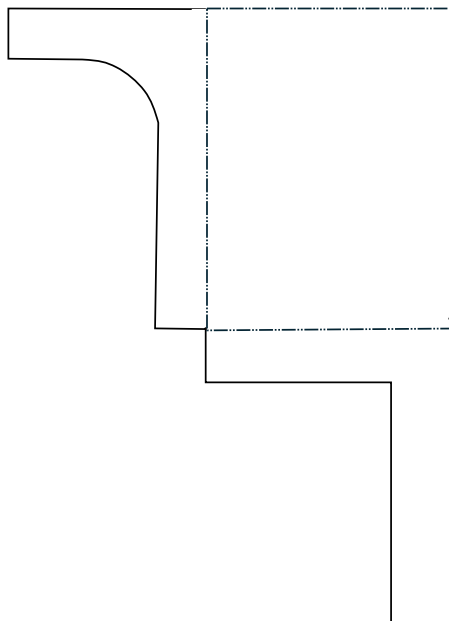

Figure 10
- b. The packaging is to be developed from a single cardboard sheet. Starting from the given faces in Figure 10, sketch an estimated, proportional surface development of the packaging. Mark **ALL** folding lines and outlines. Do **not** add glue flaps.